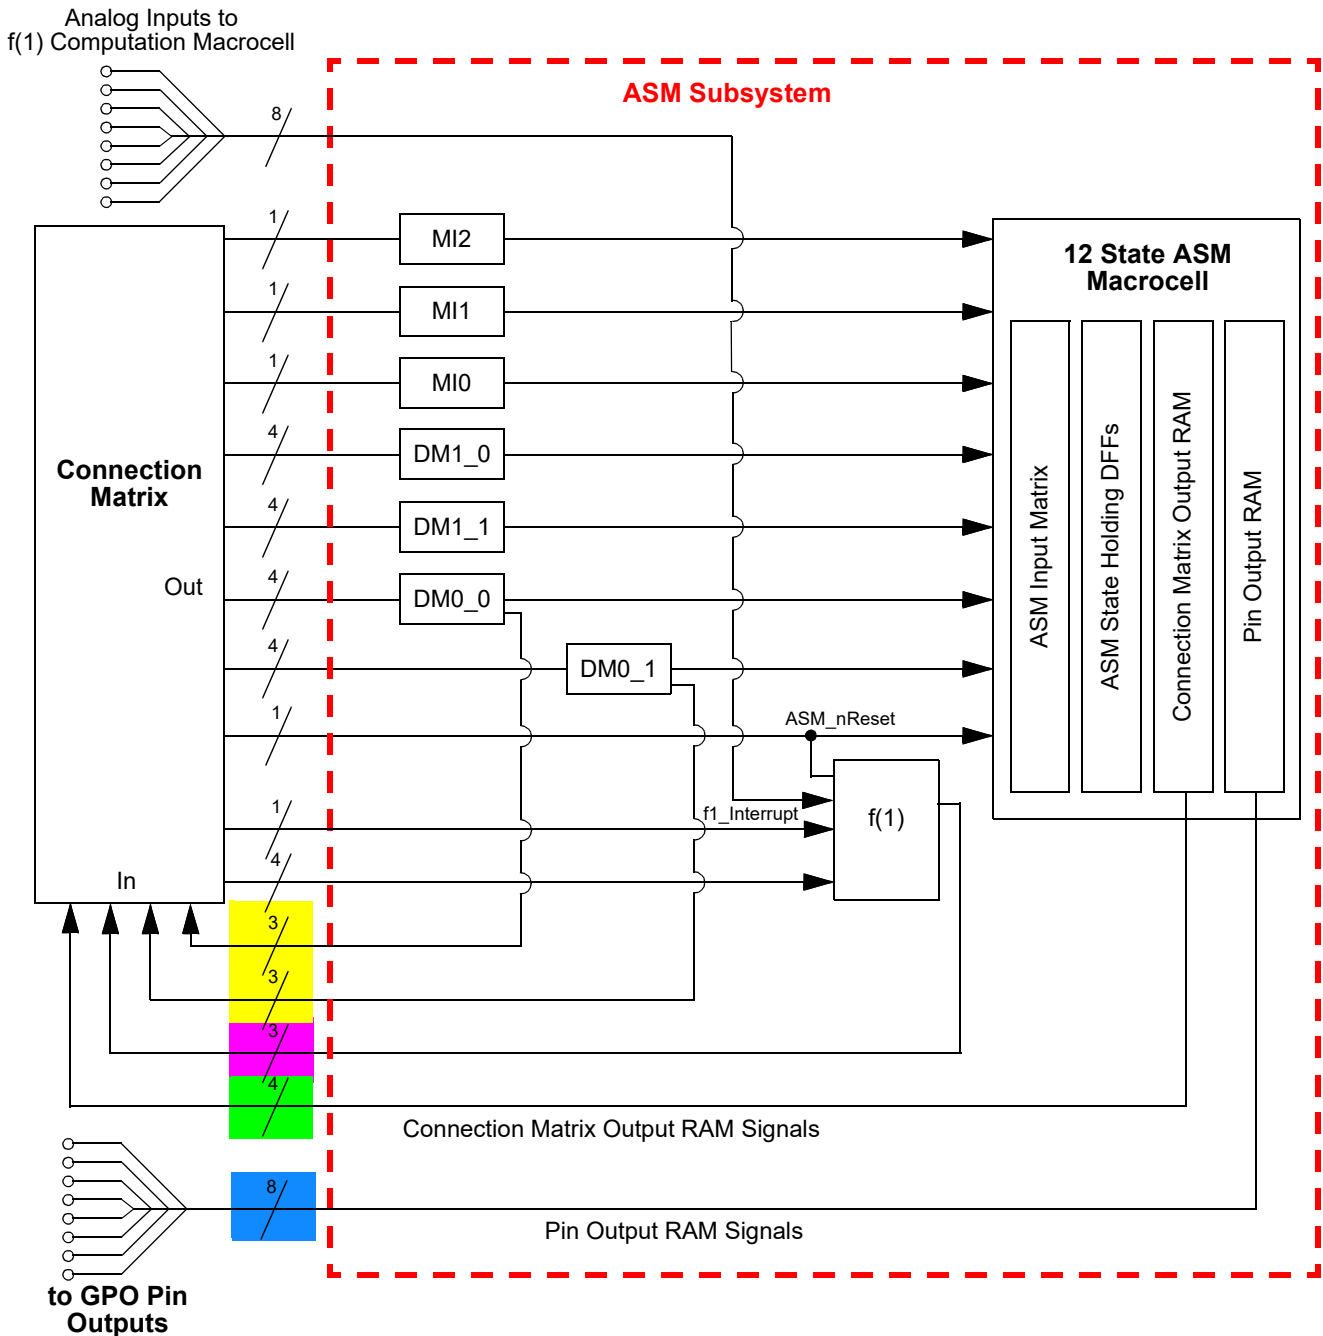

Figure 101: ASM Subsystem Input Signals
The ASM subsystem has a total of 21 output signal lines, as shown in Figure 101.
There are a total of 4 output signals from the ASM macrocell which go to the Connections Matrix inputs and from there can be routed to other internal macrocells or pins. These signals are shown in Figure 101, highlighted in green. The 4 outputs are user defined for each of the possible 12 states. The user selection for the output states is held in the Connection Matrix Output RAM.
There are a total of 8 output signals from the ASM macrocell which go directly to the 8 GPOs. These signals are shown in Figure 101, highlighted in blue. The 8 outputs are user defined for each of the possible 12 states. The user selection for the output states is held in the Pin Output RAM. Each of these GPOs has a single selection bit which defines the GPO input source as either the ASM Output RAM signal or the Connection Matrix signal.
Two of the Dynamic Memory macrocells, DM0_0 and DM0_1, can be used as either a resource for generating input signals for driving state transitions in the ASM macrocell, or to generate signals for use in other parts of the user design. When used to generate signals for purposes other than ASM state transitions, each of these macrocells has three output signals that go to the Connection Matrix, and from there can be routed to other internal macrocells or pins. Each of these macrocells has a total of 3 output signals of this type. These signals are shown in Figure 101, highlighted in yellow.
The f(1) Computation Macrocell has 3 output signals that go to the Connection Matrix, and from there can be routed to other internal macrocells or pins. These signals are shown in Figure 101, highlighted in pink.